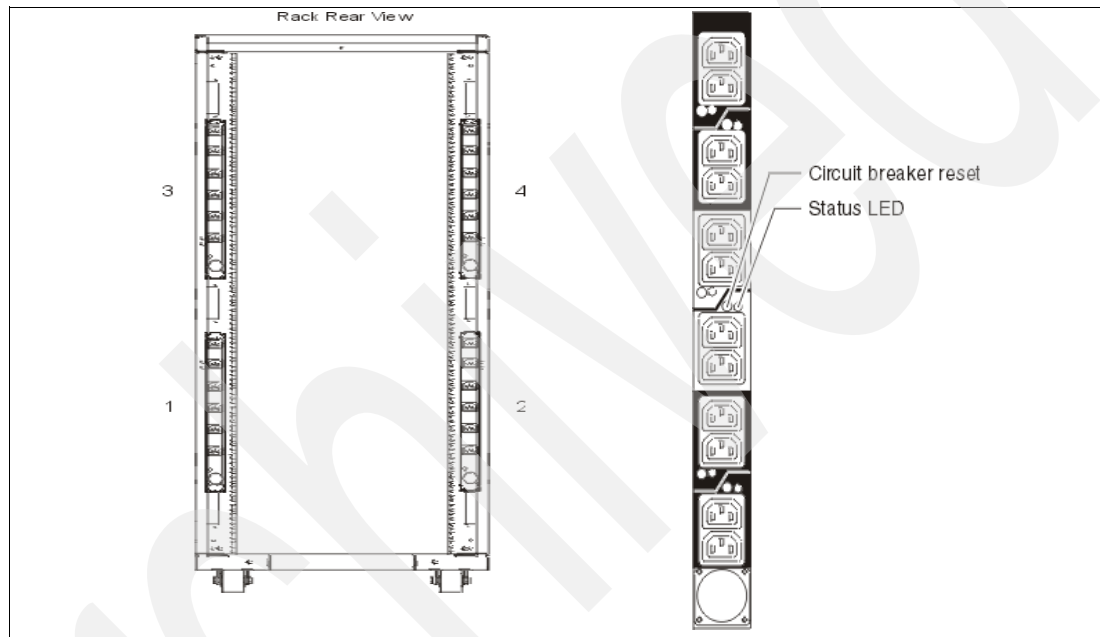

Figure 1-3 PDU placement and PDU view
- ▶ Up to four Power Distribution Units (PDUs) can be mounted in the PDU bays (see Figure 1-3 on page 10), but others can fit inside the rack. See “AC Power Distribution Unit and rack content” on page 9.
Four PDUs can be mounted vertically in the 7014 racks. See Figure 1-3 for placement of the four vertically mounted PDUs. In the rear of the rack, two additional PDUs can be installed horizontally in the T00 and three in the T42 rack. The four vertical mounting locations will be filled first. Mounting PDUs horizontally consumes 1U per PDU and reduces the space available for other racked components. When mounting PDUs horizontally, it is recommended that fillers be used in the EIA units occupied by these PDUs to facilitate proper air-flow and ventilation in the rack.